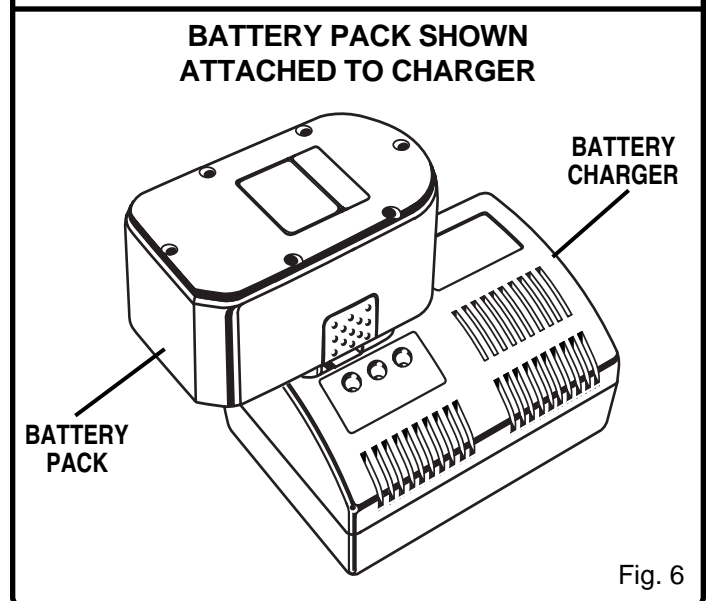

Fig. 6
- Place battery pack in charger. See Figure 6. Align raised rib on battery pack with groove in charger.